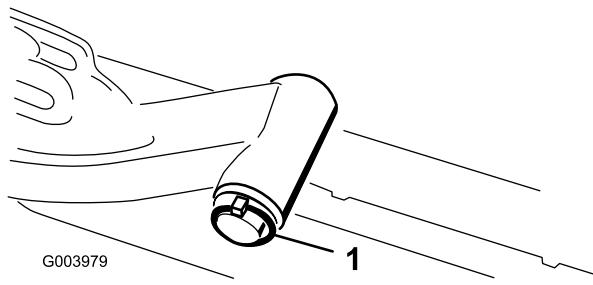

Figure 8
A. Remove the lynch pin and washer securing the lift arm pivot shaft to the lift arm and slide the lift arm pivot shaft out of the lift arm (Figure 8).
C. Insert the lift arm shaft into the lift arm and secure it with the washer and lynch pin (Figure 8).